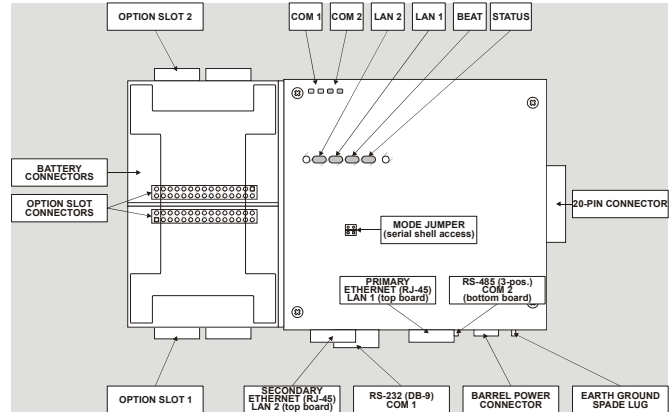

Fig. 7. HAWK 2xx/6xx board layout details.
Fig. 7 shows the location of LEDs, option slots, and other features of the HAWK 2xx/6xx with cover removed.
The HAWK 2xx/6xx has two (2) option slots for custom option cards designed for use with the HAWK 2xx/6xx. Each slot has a 30-pin connector on the HAWK 2xx/6xx base board (Fig. 7).
See Fig. 7 to locate connectors and other components on the HAWK 2xx/6xx controller.
NOTE: A green "receive" LED and yellow "transmit" LED are provided for each serial port. These LEDs are located on the bottom board, on the *opposite side* of the serial connectors (see Fig. 7). These LEDs are labeled on the board (COM1, COM2) and are not visible with the cover on.
NOTE: If a modem option card (NPB-MDM) is installed, this port becomes disabled—except if rebooted with the mode jumper (see Fig. 7) in the "Serial Shell" position.